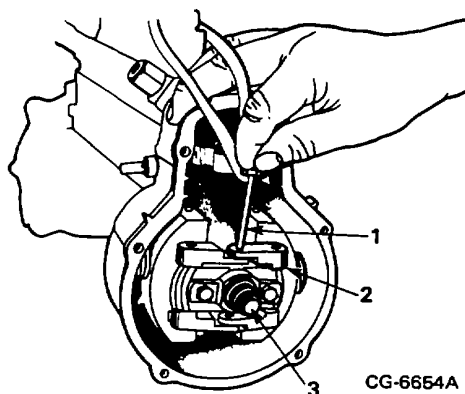

Figure 12. Removing Thru-Bolt from Flyweight Assembly
9. Raise tabs on lock washer and remove double nutted thru-bolt and guide bushing from governor flyweight assembly (Figure 12).